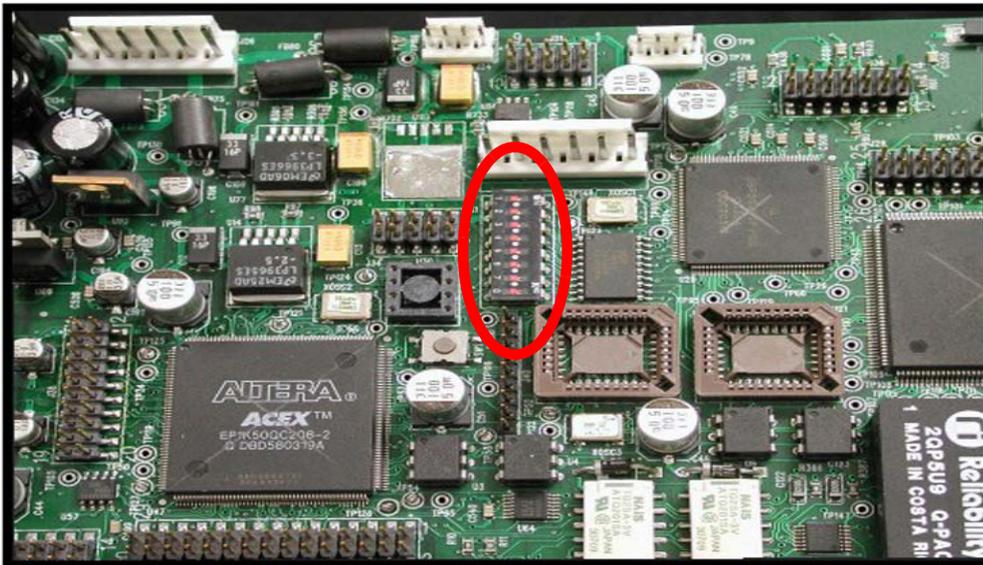

FIGURE 2. KP 812 Keypanel Board, DIP Switch Location
**NOTE:** To see where the DIP switch is on the circuit board, see Figure 2 on page 24.